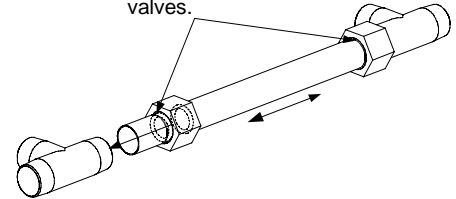
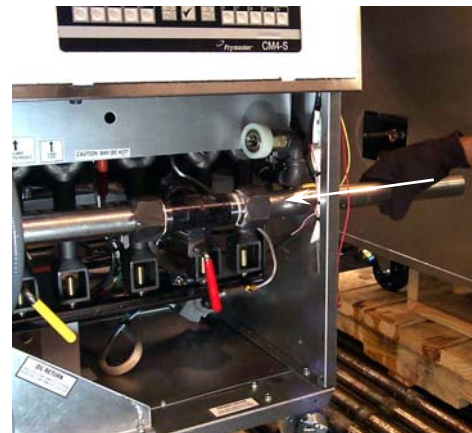

Figure 2. Slip-nut/drainpipe detail.
Figure 3. Insert drainpipe section into fryer drain-tee before pushing fryers together (arrow). Do this as required for all cabinets being assembled.
2. Remove door from fryers to be connected by lifting the door upward and removing the door pin from the bottom hinge. Remove slip-nuts from drain-tees on fryers being connected, lubricate O-rings with vegetable oil and install on drainpipe (Fig. 2). **Use care not to damage the slip-nut O-rings when installing slip-nut on drainpipe.** Insert the drainpipe into the fryer drain-tee (Fig. 3). Screw slip-nut onto the tee but do not tighten at this time. Position fryers being connected within 6 inches of each other, near the permanent installation area. Guide the drainpipe through the opposite fryer cabinet opening as the cabinets are positioned.